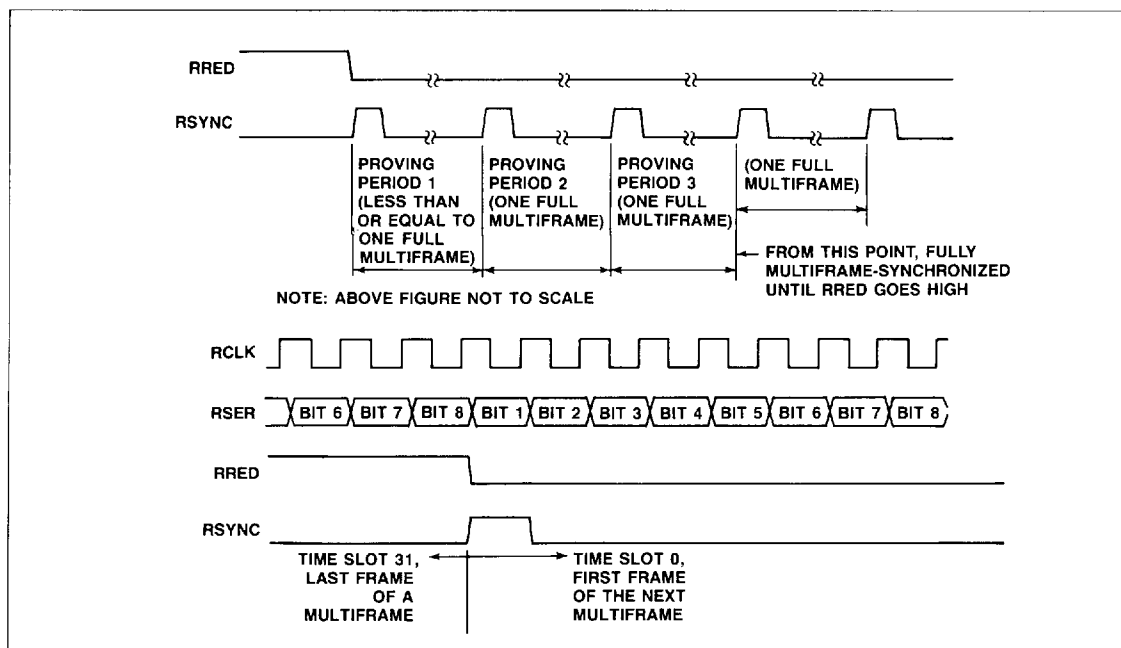

Figure 10. Receive Frame Synchronization—CEPT PCM 30 Mode (R8070 Interface)
**CEPT PCM 30 Mode (T1/CEPT input low).** RSER is processed serially and sampled by the negative edge of RCLK at a rate of 2.048 MHz. RSYNC is synchronous with the rising edge of RCLK and bit 1' in time slot zero of the first frame of a multiframe. Figure 10 illustrates the timing.